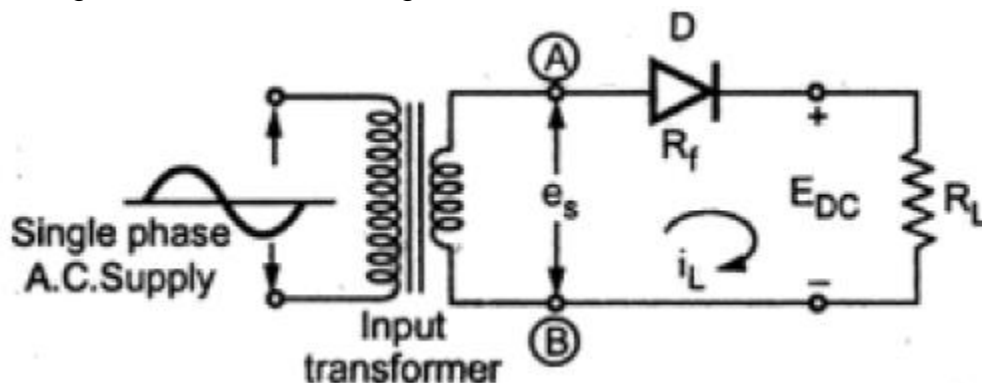

Fig. 2.1 Half wave rectifier
- The circuit diagram is shown in the Fig. 2.1.